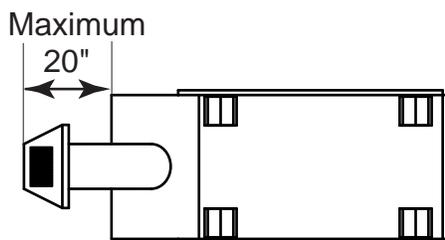
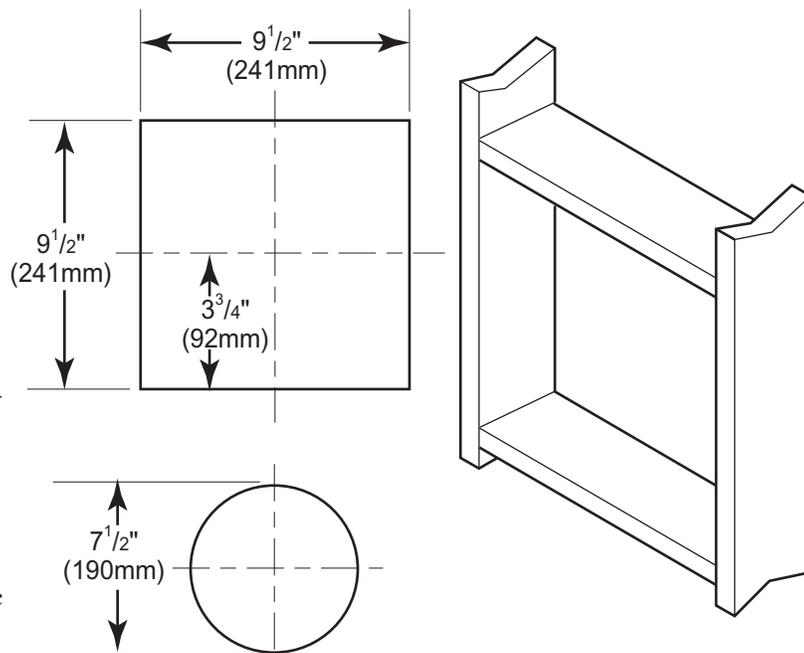
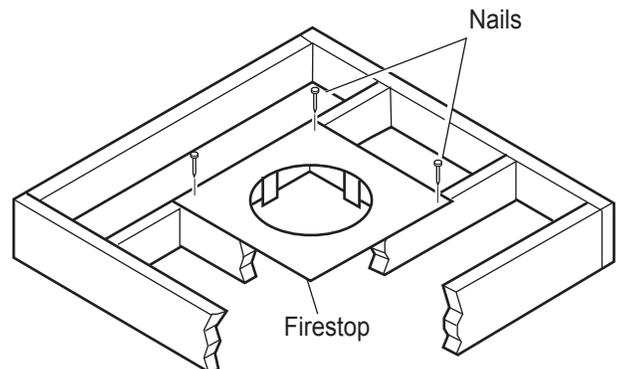
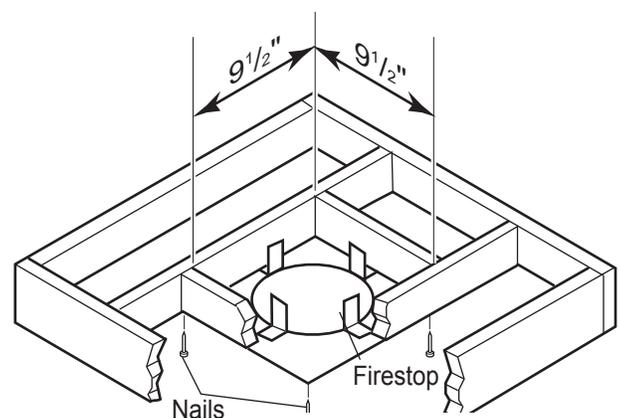

Figure 11 - Rear Vent Application, Maximum Horizontal Distance
Figure 12 - Vent Opening Requirements
Figure 28- If area above is a room, install firestop above framed hole as shown
Figure 29 - If area above is not a room, install firestop below framed hole as shown
- The maximum horizontal distance between the rear of the appliance and the outside of termination is 20" (508 m). See Figure 11.
1. Locate and cut the vent opening in the wall. For combustible walls first frame in opening. See Figure 11.
Combustible Walls: Cut a 9 $\frac{1}{2}$ " H x 9 $\frac{1}{2}$ " W (241mm x 241mm) hole through the exterior wall and frame as shown. See Figure 12.
3. Attach vent pipe assembly to the fireplace. Set fireplace in front of its permanent location to insure minimum clearances. Mark the wall for a 9 $\frac{1}{2}$ "H x 9 $\frac{1}{2}$ "W (241mm x 241mm) rectangle hole (for noncombustible material such as masonry block or concrete, a 7 $\frac{1}{2}$ " [190mm] diameter hole is acceptable). See Figure 11. The center of the hole should line up with the center line of the horizontal rigid vent pipe end. Be sure to allow for minimum rise. Cut a $\frac{1}{2}$ "x $\frac{1}{2}$ " (241mm X 241mm) rectangle hole through combustible exterior wall (7 $\frac{1}{2}$ " [190mm] diameter hole if noncombustible). Frame as necessary. Allow $\frac{1}{4}$ " minimum rise per foot. See Figure 12.
1. Cut a 9 $\frac{1}{2}$ " (241mm) square hole in the ceiling using the locating hole as a center point. The opening should be framed to 9 $\frac{1}{2}$ "x9 $\frac{1}{2}$ " (241 mm x 241mm) inside dimensions as shown in *Figure 12*, page 17 using framing lumber the same size as the ceiling joist. If the area above the ceiling is an insulated ceiling or a room, nail firestop from the top side. This prevents loose insulation from falling into the required clearance space. See *Figure 28*. Otherwise, install firestop below the framed hole. The firestop should be installed with no less than three nails per side. See *Figure 29*.
3. Cut a hole in the roof using the locating hole as a center point. (Cover any exposed open vent pipes before cutting hole in roof). The 9 $\frac{1}{2}$ "x9 $\frac{1}{2}$ " (241mm x 241mm) hole must be measured on the horizontal. Actual length may be larger depending on the pitch of the roof. There must be a 1" minimum clearance from the vent pipe to combustible materials. (Insulation should be considered a combustible material). Frame the opening as shown in *Figure 12* on page 17.